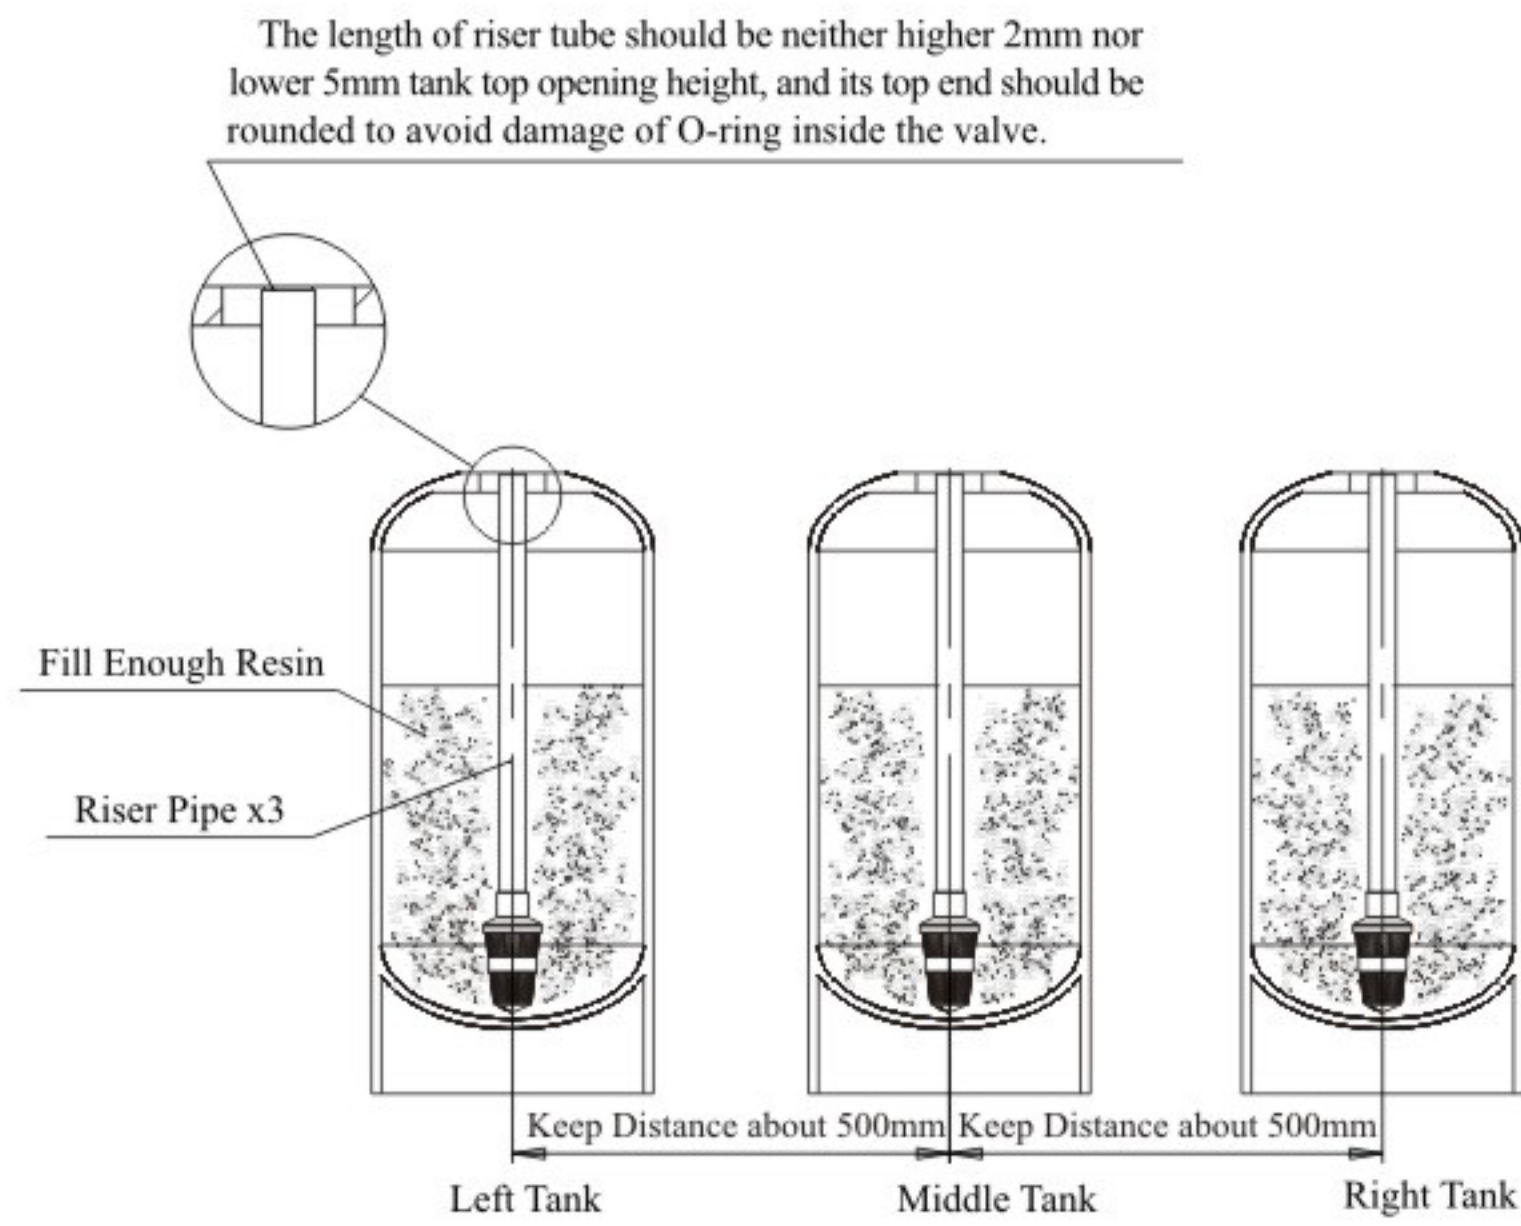

Figure 1
a.As the Figure 1 shows, prepare 3 pieces of resin tanks, keep the distances between tanks about 500mm, select the riser pipe with 26.7 mm OD, glue the riser pipe to the bottom strainer and put it into the resin tank, cut off the exceeding tube out of tank top opening. Plug the riser tube in case of mineral entering.